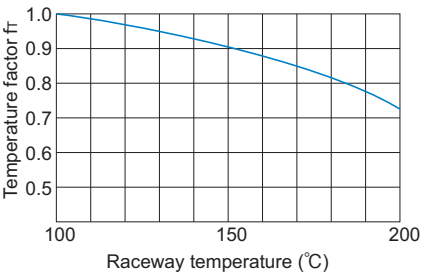

Fig.11 Temperature Factor (f_T)
- f_T : Temperature factor (see Fig.11 on B1-75)
(see Fig.11 on B1-75)
If the temperature of the environment surrounding the operating LM Guide exceeds 100°C, take into account the adverse effect of the high temperature and multiply the basic load ratings by the temperature factor indicated in Fig.11.